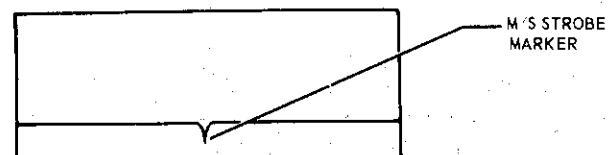

Figure 4-52. Pre-Operational Check Step 10
10. Set FUNCT switch to position 3. The CRT display should appear as shown in figure 4-52.